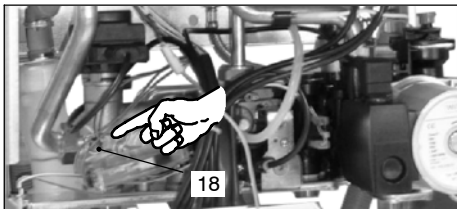

Fig. 8.6
- 9 Disconnect the C.h. temperature probe NTC 18 in Fig. 8.6
- 11 Connect the C.h. temperature probe NTC 18 in Fig. 8.6